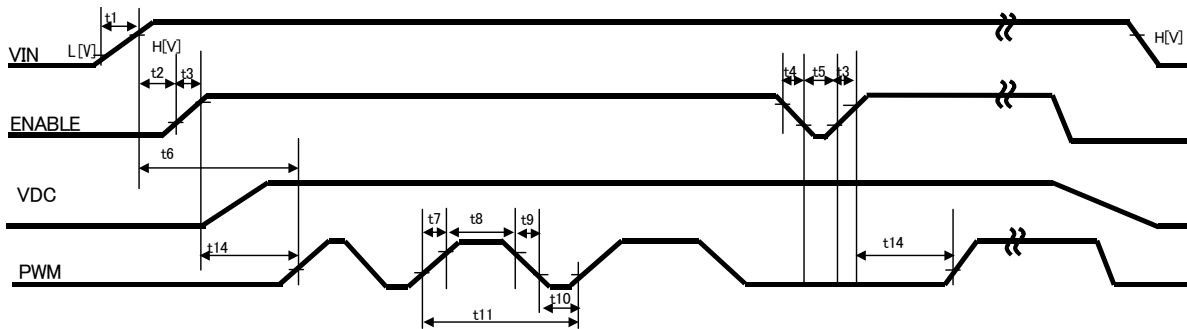

Fig. 23 Input timing (after soft start)
- Please input PWM signal according to Fig. 23 after soft start finishes.